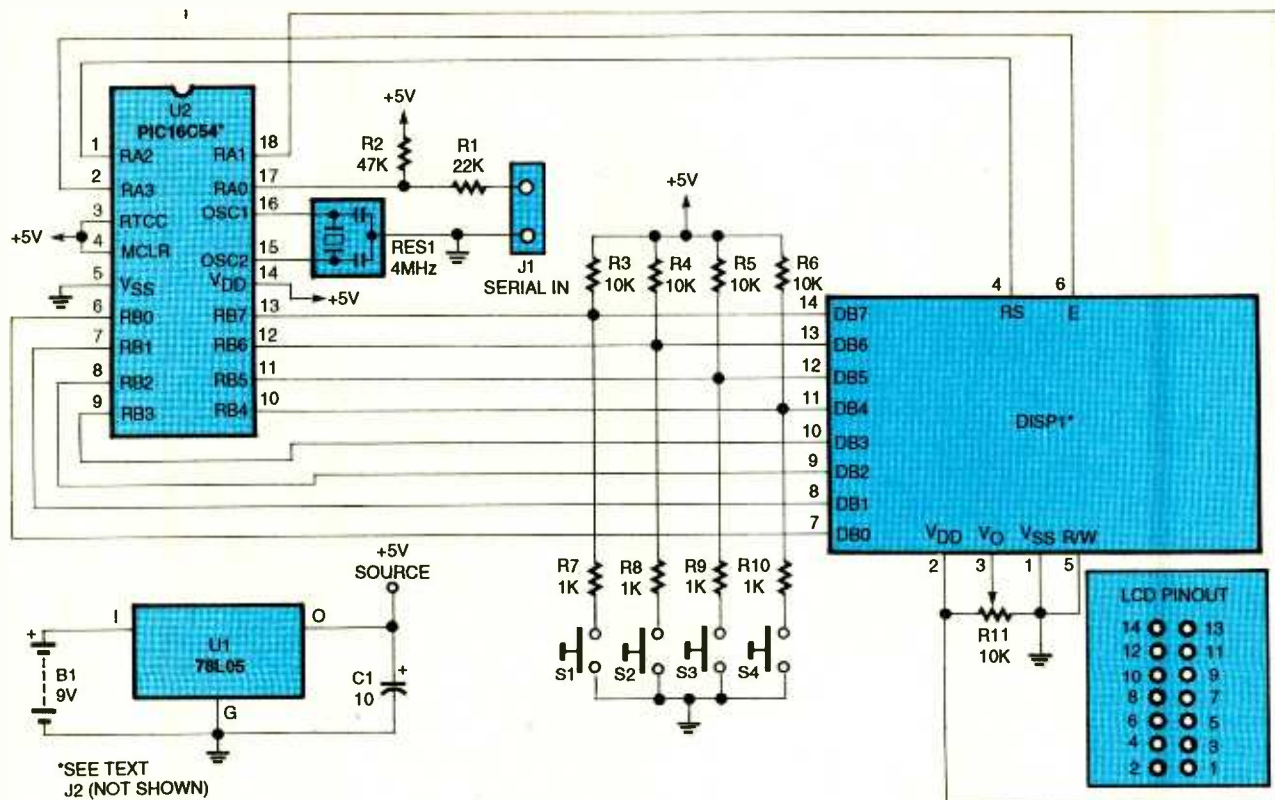

Fig. 1. The Micro Messenger consists of a power supply (U1, C1), microcontroller (U2, RES1), LCD module, and various resistors, switches, and connectors.
**Circuit Description.** Figure 1 is a schematic diagram of the Micro Mes-
Now that you know how U2 works, you may have some questions about Fig. 1. For Example:
The Micro Messenger takes a no-frills approach to do the same job. Resistor R1 limits the amount of current allowed to flow through the RS-232 connection, while diodes inside the PIC limit the voltage to 5-volt logic levels. The PIC program takes care of inverting the bits and arranging them into bytes. Resistor R2 (see Fig. 1) helps the PIC determine whether or not a computer is connected. If no computer is connected, R2 holds the serial input pin at 0 volts; if one is connected, the RS-232 resting state of +10 volts puts a high on the serial input pin, telling the PIC to expect serial input.
The pin headers, J1 and J2, require some minor surgery before installation. Note that J2, the LCD socket, is not shown in the schematic (Fig. 1). Begin with J1, the serial-port header. Break off a four-pin piece of the single-row header material—a pair of wire cutters can be used for that; just snip the plastic at the notch between adjacent pins. Then use a pair of needle-nose pliers to pull the square metal posts completely out of the plastic block. The plastic may separate into